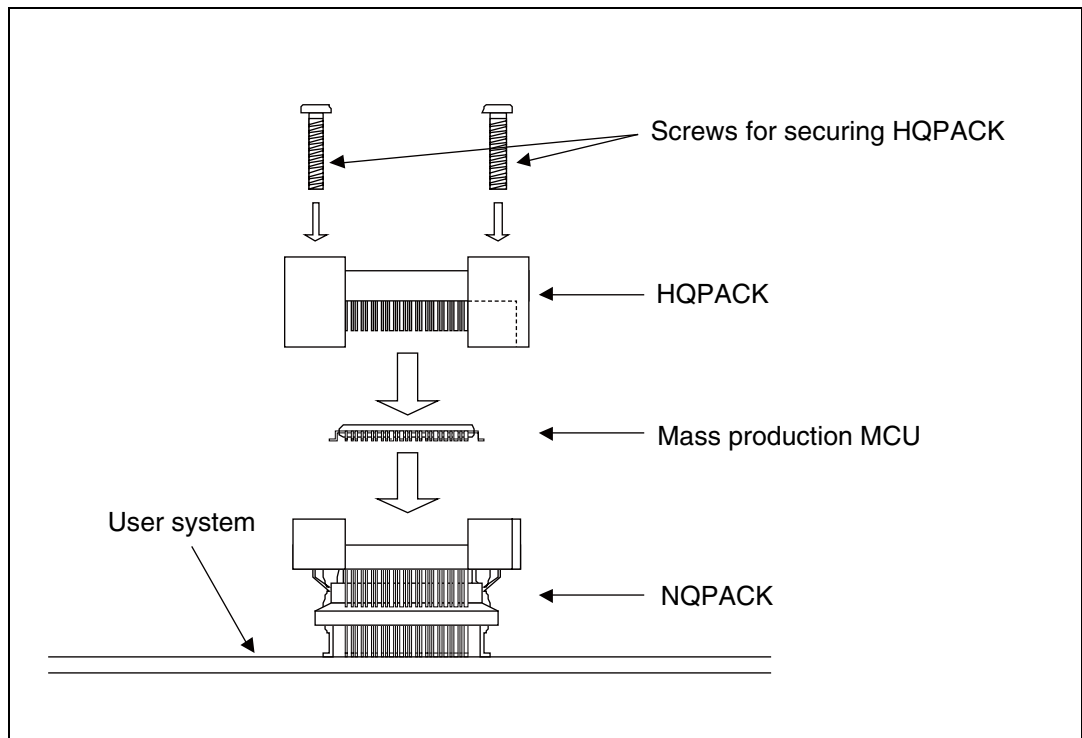

Figure 5 Mounting a mass production MCU
2. Confirm that the mass production MCU is correctly mounted on the NQPACK, and then align the indexes of the HQPACK with the NQPACK (the corner that has a straight-line notch cut out of it) and insert the HQPACK into the NQPACK (see “Figure 5”).